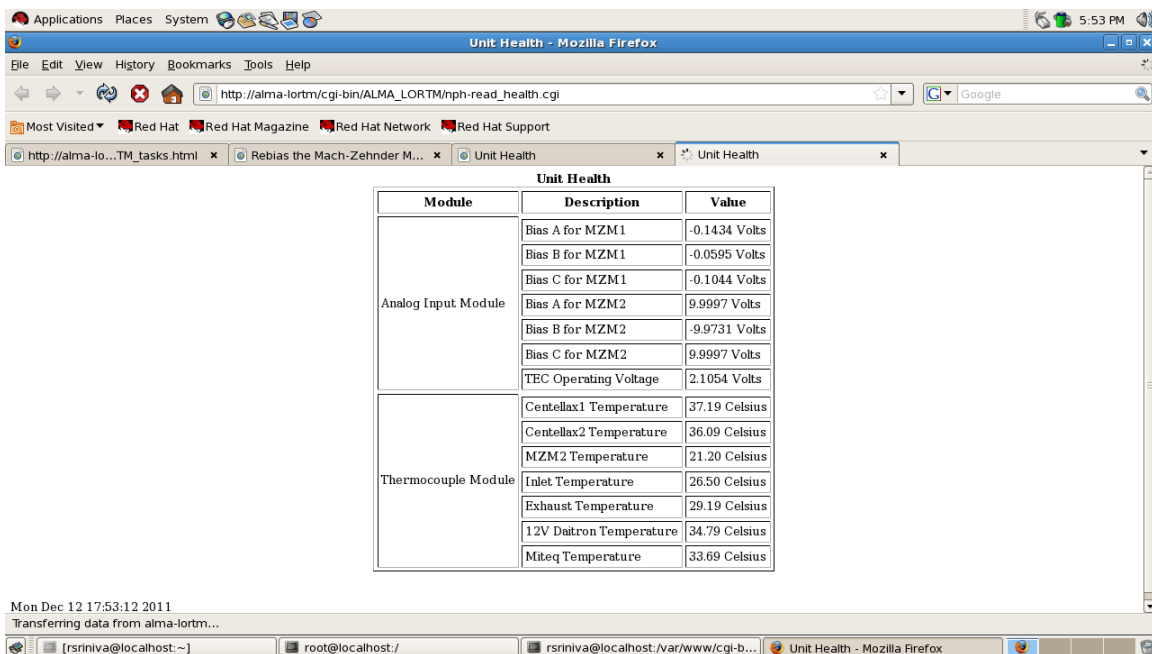

Figure 18 Monitoring the Analog Input and the Thermocouple modules
- Please open the link on the main page which is titled **“Unit Health”** and type in a monitor time of 2 minutes in the new page that opens in another tab and hit submit. A third tab will open with a table which displays values from the Analog Input module and the Thermocouple module. This page is continuously refreshed. You can see the Bias values applied to ports A, B, and C of MZM1 and MZM2 and the TEC voltage. If you are rebiasing MZM2, you should see port C, A, and B of MZM2 being dithered between -2.5 V and +2.5 V in that order. At the same time, you will see the ‘sweep’ LED on the OSA flash on and off. The power level of the laser tone on the OSA will change as well. Once the algorithm is complete, rebiasing voltages will be set for the MZM as shown (refer to Figure 18). They will be either +10 V or -10 V for MZM1. They will be set to -10 V for MZM2. The program then goes to sleep for 15 minutes, after which the whole process is repeated again and so on until rebiasing is complete, when all ports are set to 0 Volts.